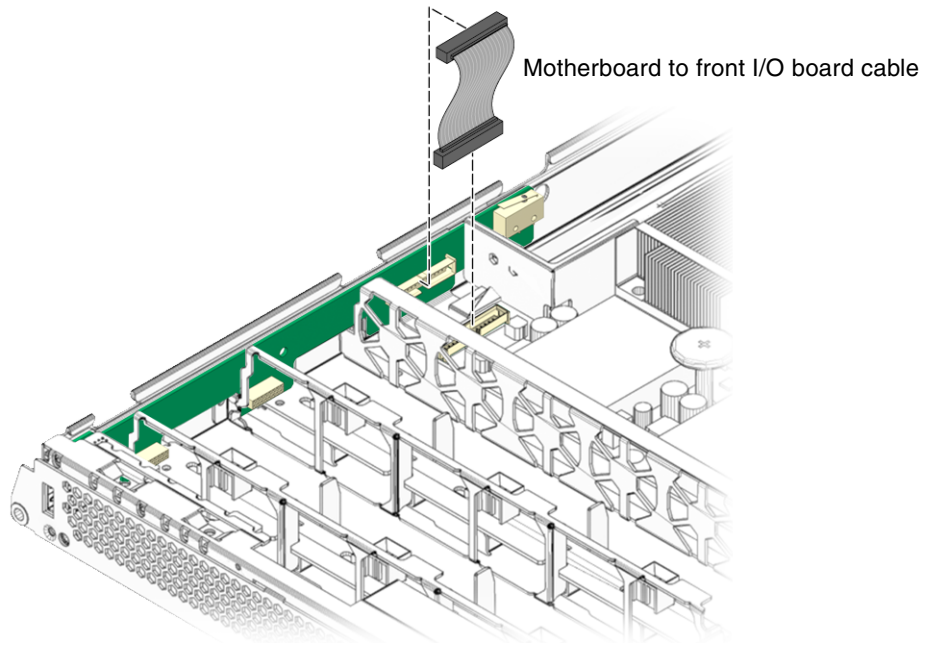

FIGURE 3-20 Motherboard to Front I/O Board Cable
8. **(Sun Fire V215) Reinstall the motherboard to front I/O board cable (FIGURE 3-20).**
- 10. Disconnect the motherboard to front I/O board cable (FIGURE 3-20).**
11. **Reinstall the motherboard to front I/O board cable (FIGURE 3-20).**